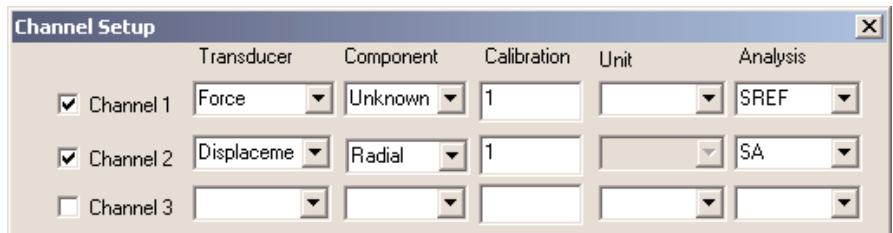

Figure 3: Channel Setup Dialog Box with Appropriate Inputs for Parallel Seismic Testing
7. **Channel Setup:** is the place to turn on the channels used in data acquisition. A dialog box similar to Figure 3 should appear on your screen (supporting up to 16 channels) for channel setup. The channels that are planned for use in data acquisition need to be checked. Their transducers, components, calibration and unit need to be set correctly. Once the parameter setup is complete, data parameters should be saved by going to "Acquisition/Save Data Parameter" to ensure that these parameters can be loaded with the SHM program.